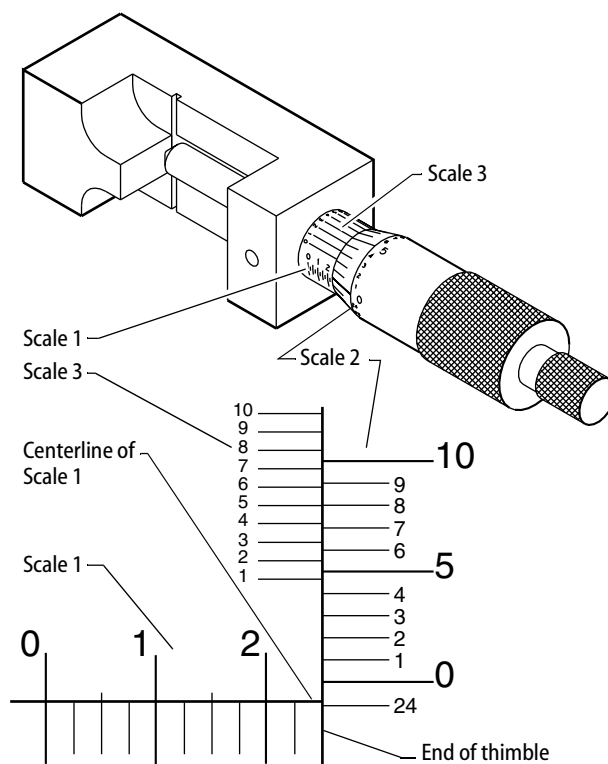

Figure 3
To understand how to read the gauge, follow the example below. Figure 3 shows a measurement of 0.2495".
- 1 On scale 1 read the largest, visible number. (In Figure 3 the number is 2.) Each number on scale 1 stands for 0.100" (one hundred thousandths of an inch). Each line on scale 1 stands for 0.025" (twenty-five thousandths of an inch).
- 2 On scale 1 count the number of lines between the largest number and the end of the thimble. (In Figure 3 there is one line.)
- 3 On scale 2 read the largest number that is even with or just below the centerline of scale 1. (In Figure 3 the number is 24.) Each line on scale 2 stands for 0.001" (one thousandth of an inch).
4 On scale 3 read which line best aligns with a line on scale 2. In Figure 3 the number is 5 (it aligns with 8 on scale 2). Each line on scale 3 stands for 0.0001" (one ten-thousandth of an inch).
Below is a summary and total from the example in Figure 3. To find the depth of the key cut, add the values from the three scales as follows: